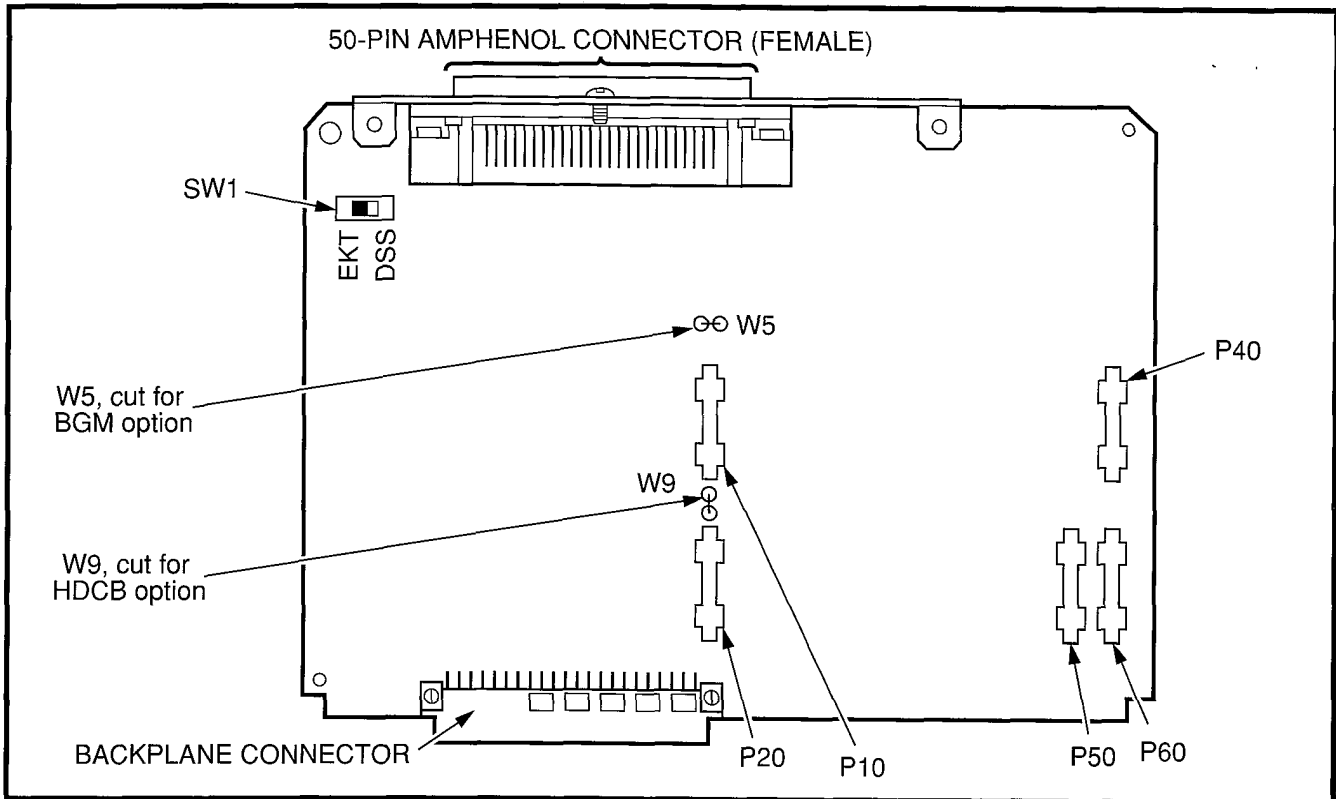

FIGURE 6-4—PEKU CONTROLS AND INTERFACE CONNECTORS
4.04 PEKU controls and interface connectors are shown in Figure 6-4 and described in Table 6-B.
PEKU connectors **P10**, **P20**, **P40**, **P50**, and **P60** are positioned to allow installation of the EOCU only in the proper position (see Figure 6-4).